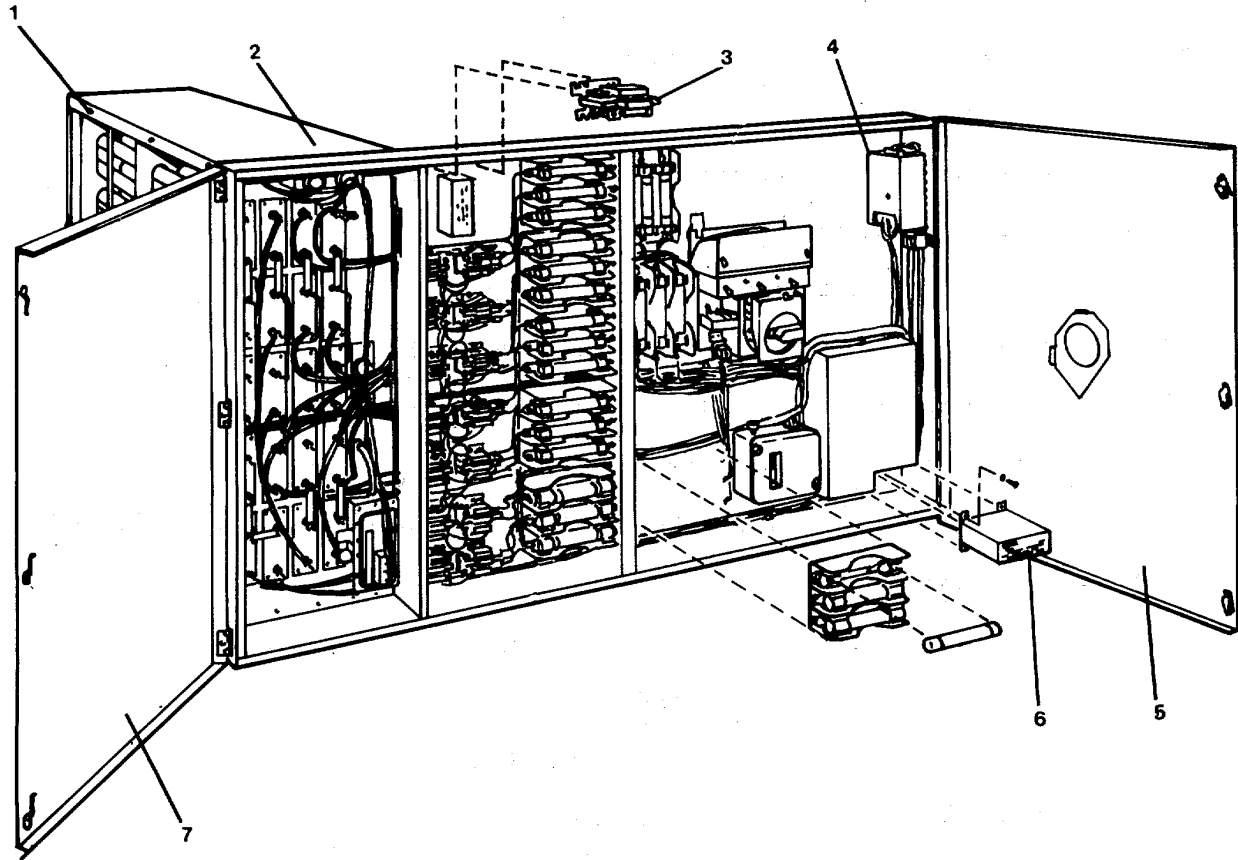
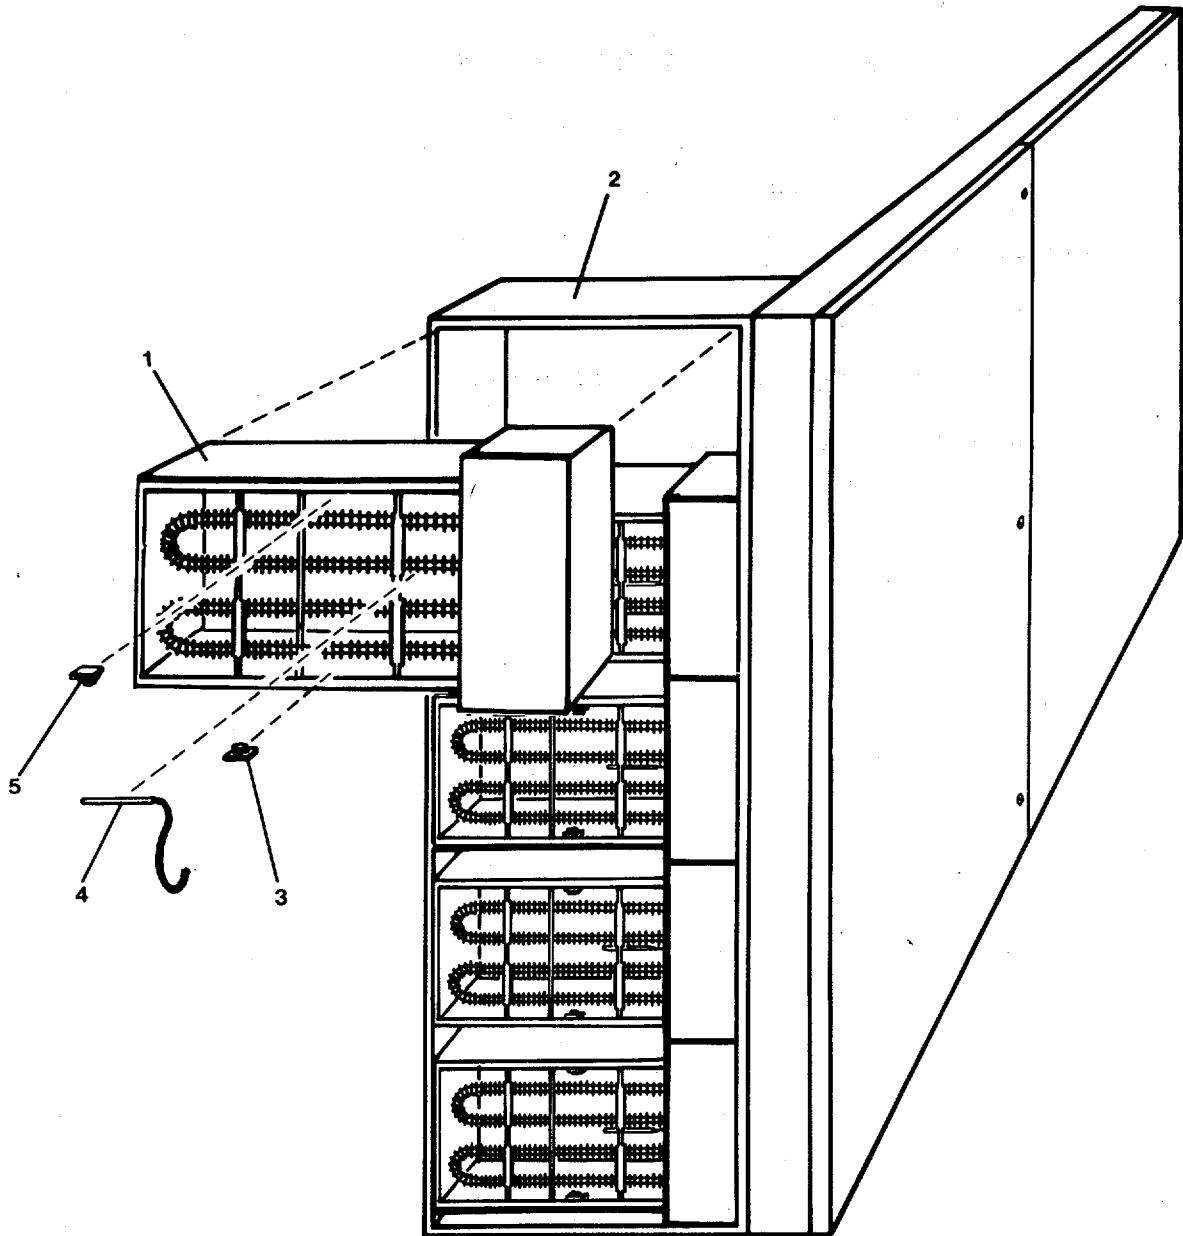
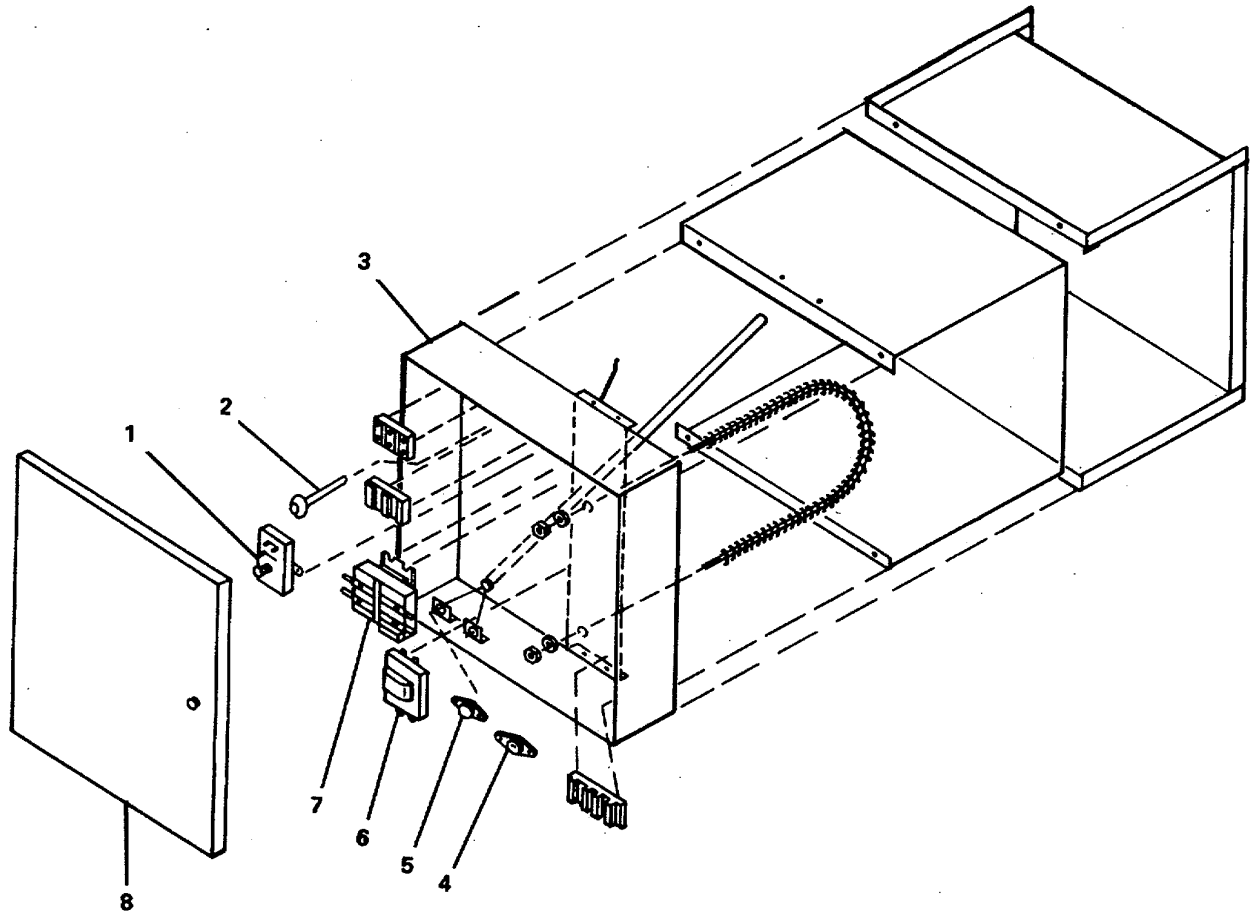

Figure 3-1. Duct Heater (DH #1).
FIGURE 3-2. *Thermostatic Switches (DH #1).*
Figure 3-3. Duct Heater (DH #2, #3, and #17).
- a. Open terminal box doors (5, 7, FIGURE 3-1).
- b. Tag and disconnect electrical power supply wiring to heater (2).
- c. Tag and disconnect thermostat wiring to the heater (2).
- e. Remove the mounting screws (1) holding heater to ducting.
- f. Slide the heater (2) from the ducting.
- c. Replace control transformer (6).
- (1) Tag and disconnect electrical wiring from transformer.
- (2) Remove transformer from terminal box.
- (3) Install new control transformer (6).
- (4) Connect electrical wiring to transformer terminals.
- d. Replace thermostatic switches (3, 4, 5, FIGURE 3-2):
- (1) Remove duct heater (removal step in this procedure).
- (2) Replace appropriate thermostatic switch in the heater (2) element box (1):
- (b) Remove appropriate switch (3, 4, or 5) from element box (1).
- e. Close terminal box doors (5, 7, FIGURE 3-1).
- a. Install heater (2, FIGURE 3-1) in ducting with mounting screws (1).
- b. Run power supply and thermostat wiring into terminal box on the heater (2).
- (1) Turn electrical power ON.
- (2) Start and run heater to check for proper operation.
- (3) Remove "Out of Service" tag from circuit.
**3-12. Repair Heater, Duct Type, Stationary (Duct #2, #3, #17). (FIGURE 3-3)**